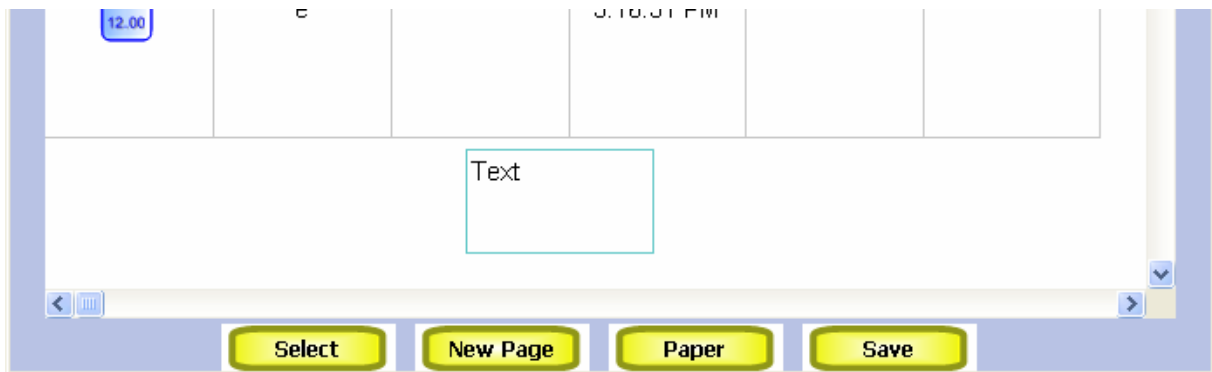

Figure 45 : Adding an addition text field
3. A text filed is added to the report. (Figure 45).